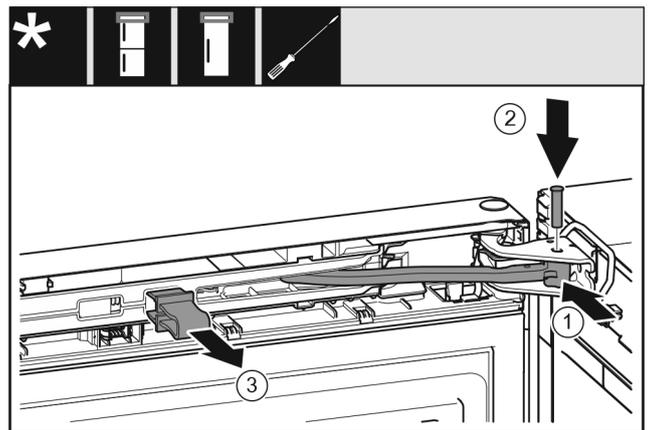

Fig. 61
- ▶ Turn the joint Fig. 61 (1) in the bearing block.
- ▶ Insert the bolt Fig. 61 (2) into the bearing bracket and joint. Ensure that the latching cam is in the groove properly.
- ▶ Remove the safeguard Fig. 61 (3).